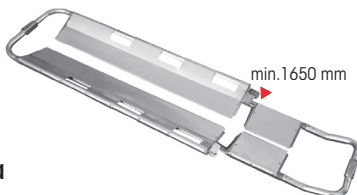

Figure 3a
The stretcher's length can be adjusted to 4 different lengths depending on the patient's size by using the profile extension of the foot area (Figure 3a,b). The device can also be used to fold the scoop stretcher for storage.
4. After setting the desired length, close the previously opened blocking devices again. Check whether the blockings of the two profile pull-outs are audibly engaged in one of the marked positions after pulling them out. The stretcher's length can be adjusted to 4 different lengths. (Figure 3a und 3b using the example of SAN-0125)